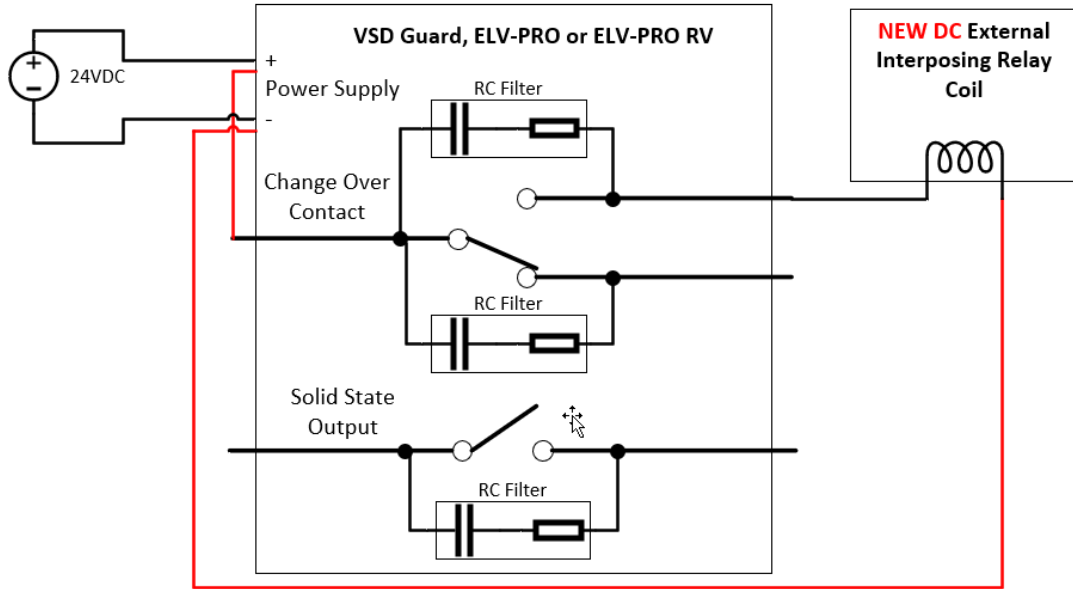

Figure 4: Use of DC control supply to circumvent vulnerability.
2. Change out the 110 VAC control supply for a DC control supply such as 24 VDC. See Figure 4. The DC current will be blocked by the capacitor in the transient suppression filter regardless of which relay is used.